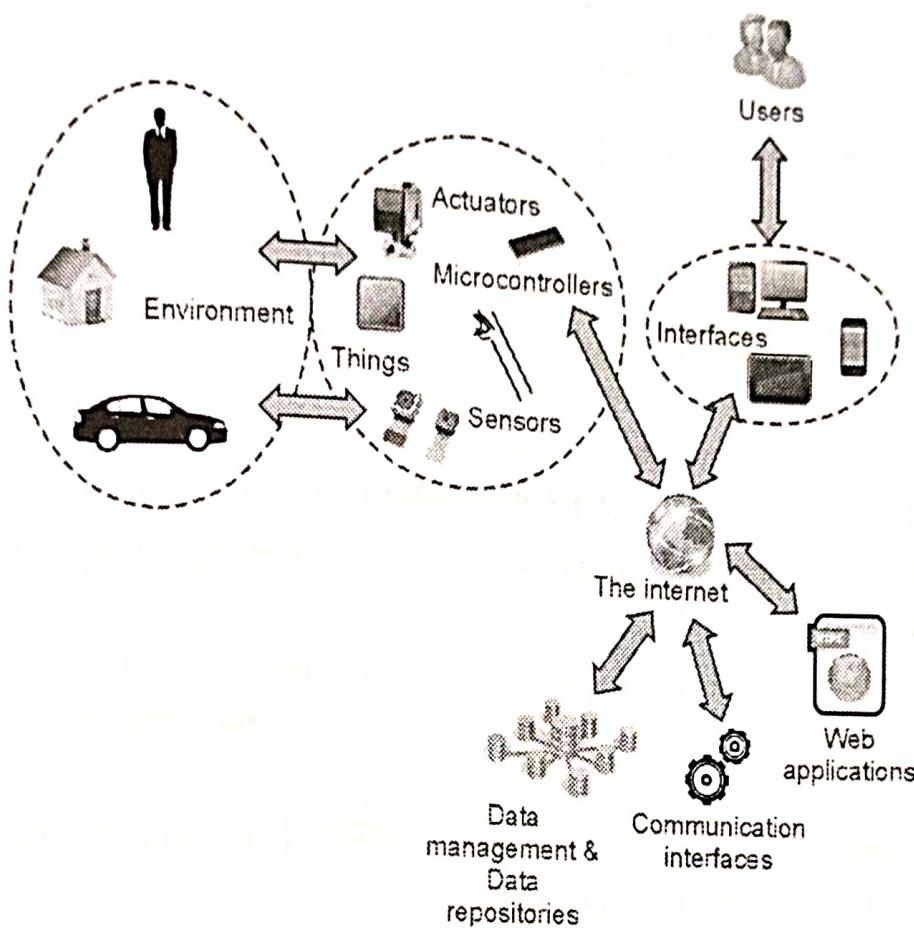

Fig. 4.1.2 : Working of IoT
- Fig. 4.1.2 shows working of IoT.